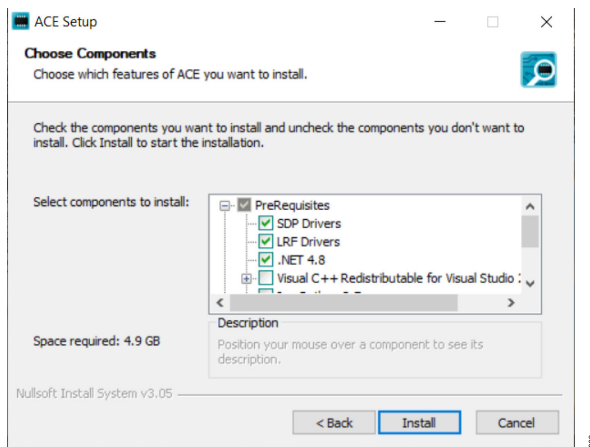

Figure 3. Required Driver Installations with the ACE Software
3. Install the latest version of the **ACE Software** from the **ACE Software** page. During installation, ensure that the **SDP Drivers**, **LRF Drivers**, and **.NET 4.8** components are selected (see **Figure 3**).